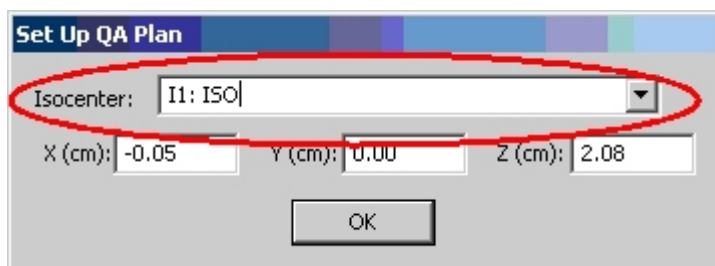

Figure 8 - Setting the right isocenter location
- set the isocenter location of the plan being recalculated for QA aims (Figure 8);